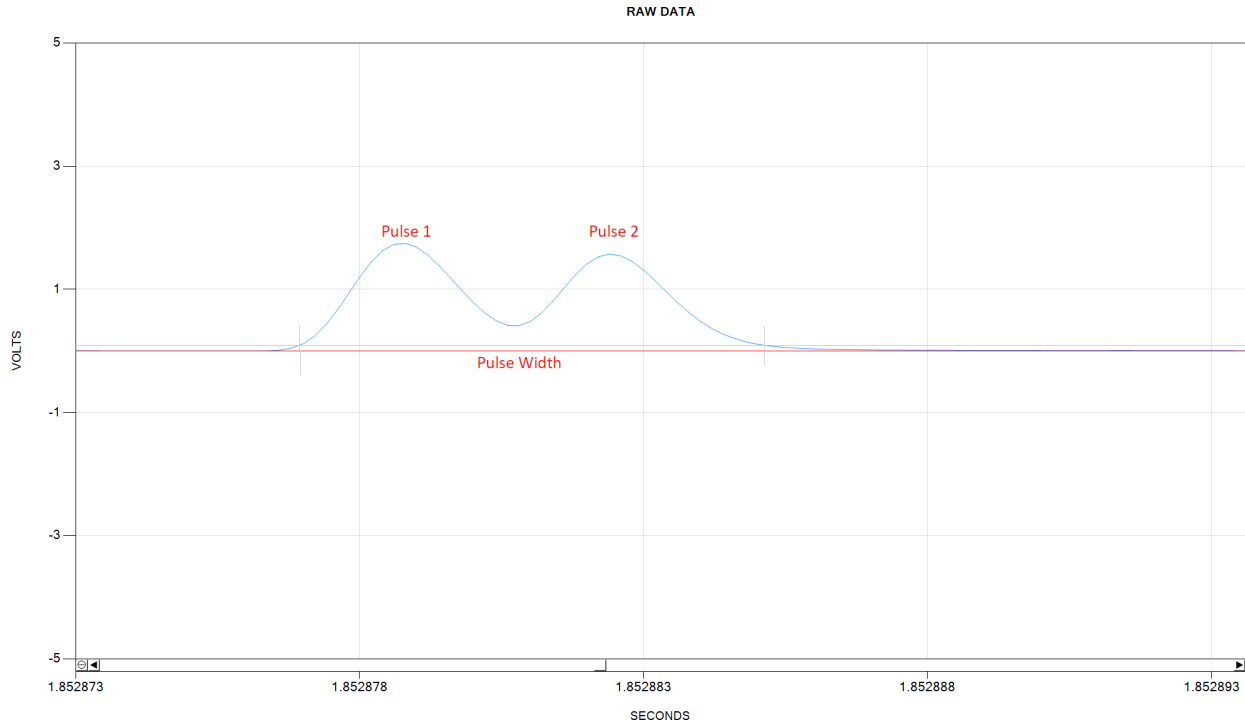

Fig. 39. Piled up detector pulses.
- **Piled Up** - a pulse that goes through multiple peaks before returning to baseline (Fig. 39) is considered to be made of several genuine pulses that are too closely spaced together and therefore overlap; the piled up pulses are counted but normally excluded from pulse-height spectrum as their energy cannot be accurately evaluated.